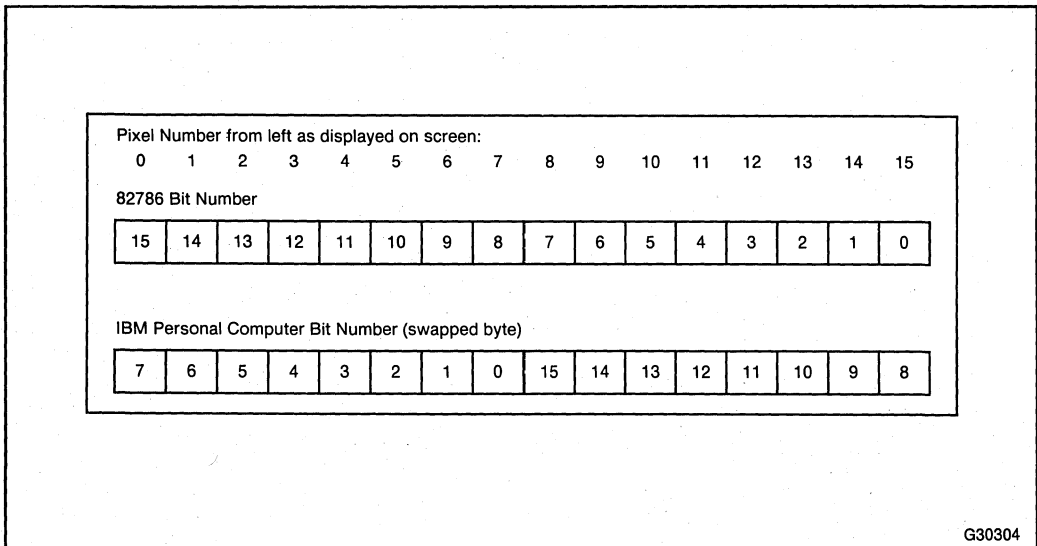

Figure 3-1. 82786 and IBM PC Swapped Byte Bitmap Formats
In addition to the 82786 native bitmap format, the Display Processor (DP) supports the swapped byte IBM Personal Computer (PC), Color Graphics Adapter (CGA) and PCJr bitmap formats. Differing from the 82786 format, the IBM PC format positions the least significant byte of a word to the left of the most significant byte on the screen; whereas, the 82786 format positions the least significant byte to the right of the most significant byte as shown in Figure 3-1.